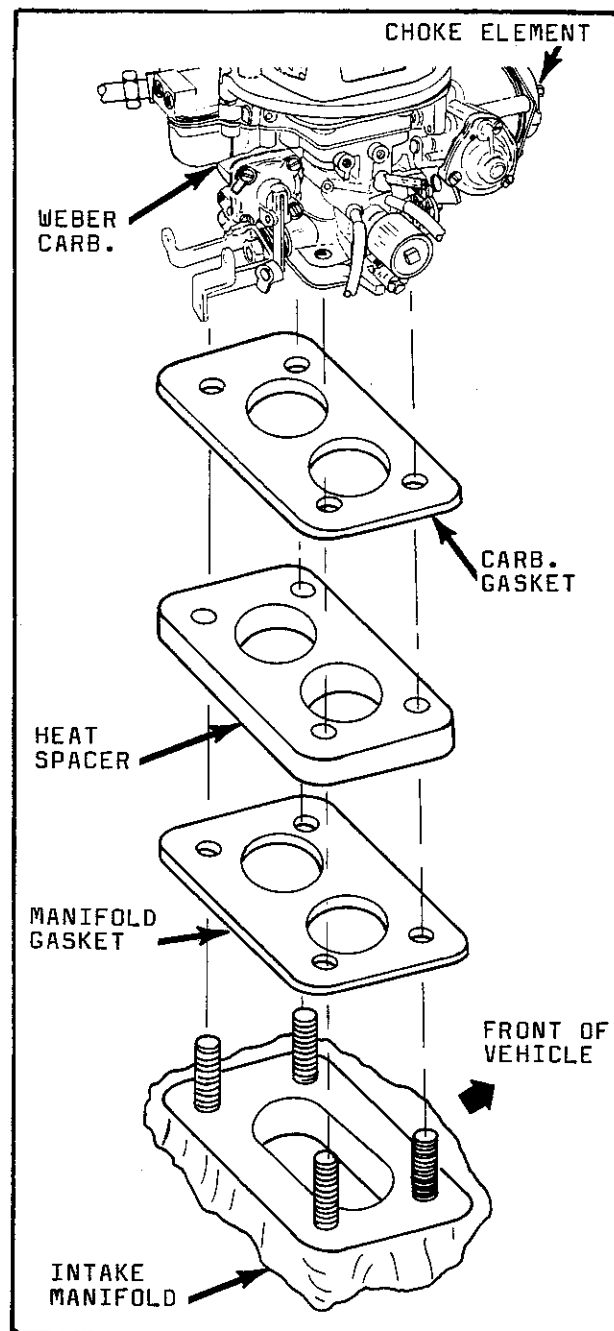

Figure 2
15. Coat manifold gasket lightly with gasket sealer and install on the intake manifold. See figure 2.
18. Install the Weber carburetor above the carburetor gasket (Fig. 2).
NOTE: On vehicles with 1.6, 1.8 or 2.3 liter engines install the carburetor with the choke element toward the **FRONT** of the vehicle. See figure 2.